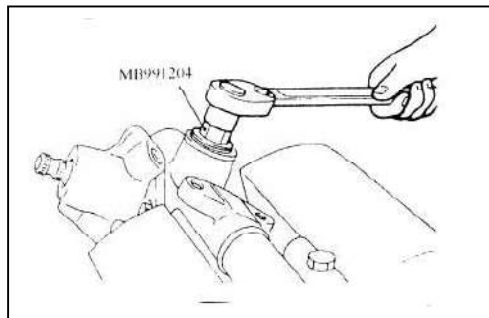

Fig 17-23
1)RACK SUPPORT COVER REMOVAL(See fig 17-23)